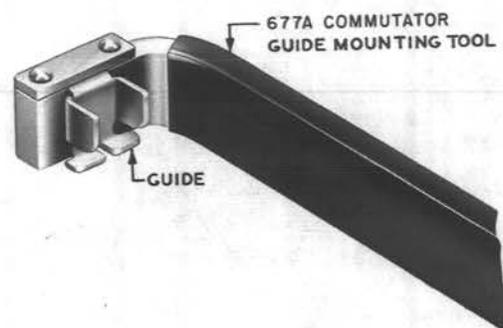

Fig. 11 – Position of Guide When Inserted in 677A Commutator Guide Mounting Tool
3.26 Insert the tab of the guide into the slot in the offset end of the 677A commutator guide mounting tool as shown in Fig. 11.